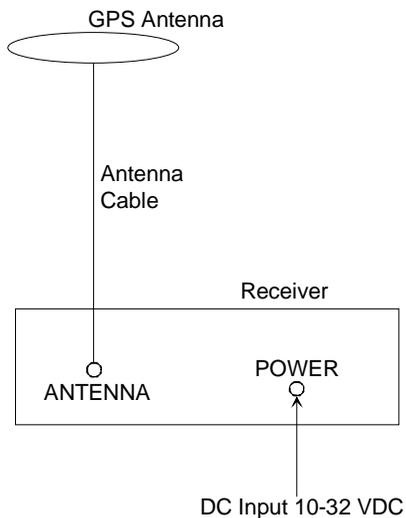

Figure 2.1. Receiver Setup
1. Connect one end of the power cable to a 10-32 VDC power source (generally a battery pack) and the other end to either of the two POWER connectors on the rear panel of the receiver (Figure 2.1).